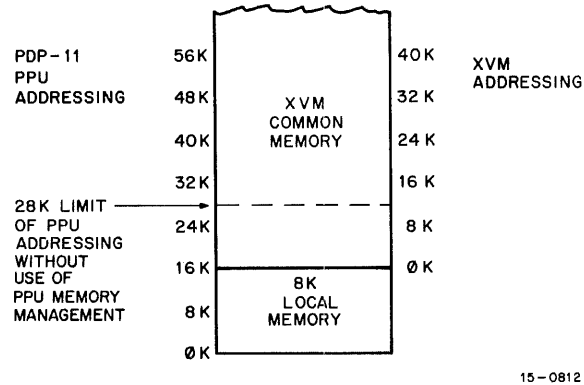

Figure 2-6 Memory Address Translation
2.7 MEMORY ADDRESS TRANSLATION (Figure 2-6)
The first process is to subtract from the top five bits of the address, a value corresponding to the amount of local memory resident on the PPU. Once this has been done, the address is then shifted one place to the right to compensate for the fact that the PDP-11 family PPU uses byte addresses. This can be seen in Figure 2-6. There is a "28K limit" mark on the common memory in Figure 2-6; this shows the maximum PPU memory addressing capability without PPU memory management.